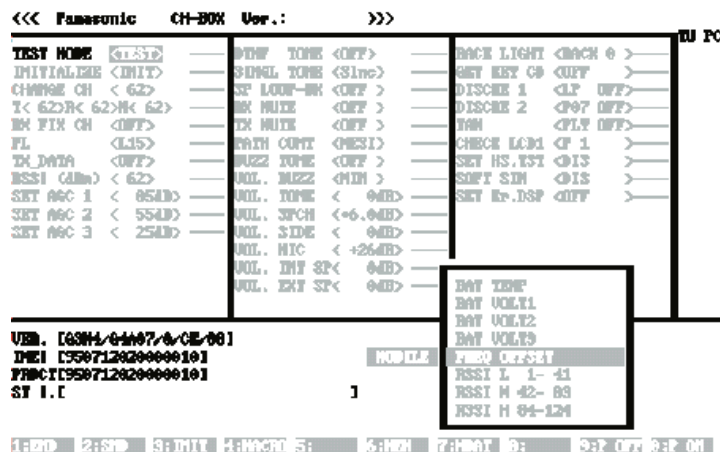

Figure 18: Test mode selection
5. (Figure 18) Highlight the FREQU OFFSET field.